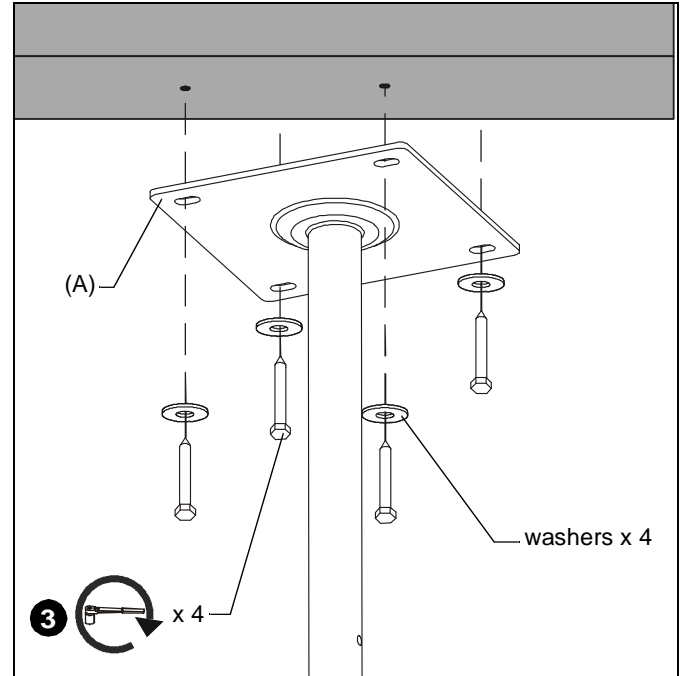
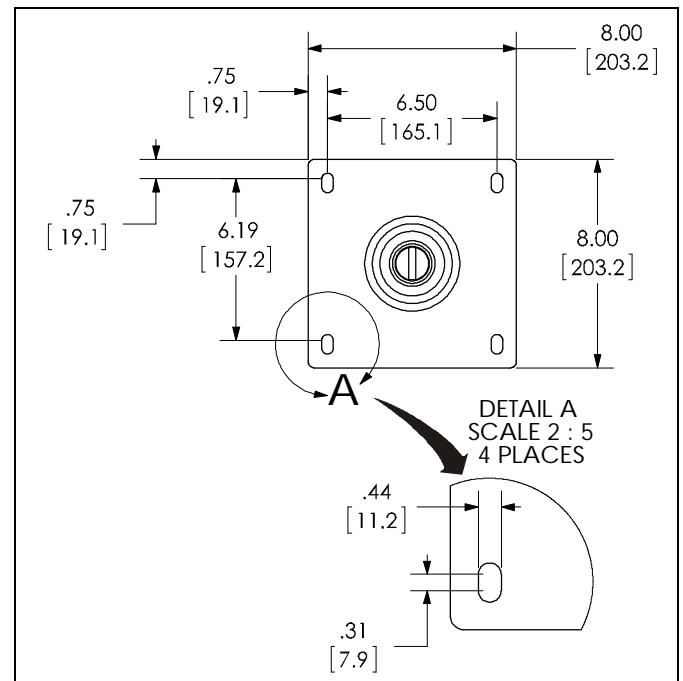

Figure 2
Figure 3
- Install and tighten four 5/16" x 2-1/2" (minimum) lag screws (not included) through 5/16" washers (not included) plate and post assembly (A), into wood stud cross bracing. (See Figure 2) (See Figure 3) for dimensions details.
1. Using plate and post assembly (A) as a template, mark locations of four pilot holes on ceiling.
3. Install four UX10 or AF8 anchors (not provided) to secure into solid concrete ceiling. (See Figure 3) for dimensions details.